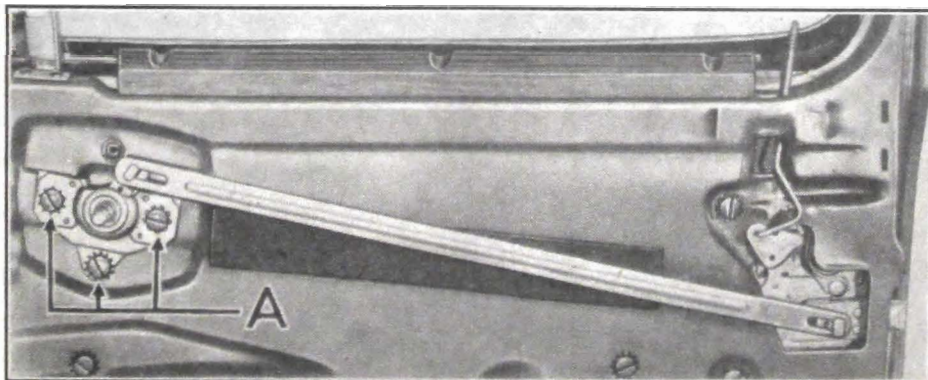

Fig. 1-65. Remote Control Removal
- 2. Remove the three attaching screws "A", Fig. 1-65, holding remote control mechanism to door inner panel.